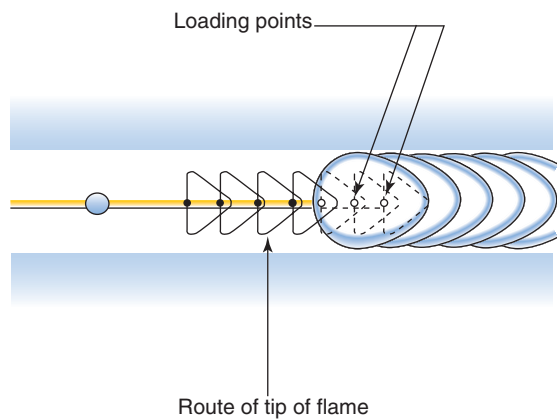

Figure 10.15 (Reproduced with permission of Lead Sheet Association)
- The flame is directed into the centre of the seam and is moved forward either in a straight line or slightly from side to side. This will set the pattern of the seam as shown in Figures 10.15(a) and (b).